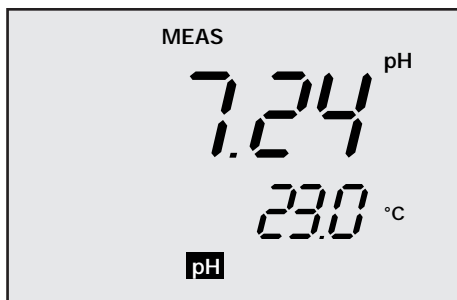

Figure 4
All the LCD segments display for a few seconds. The LCD switches to the pH measurement mode. See Figure 4 .
1. Make sure the meter is on and in the pH measurement mode. See Figure 4 above.